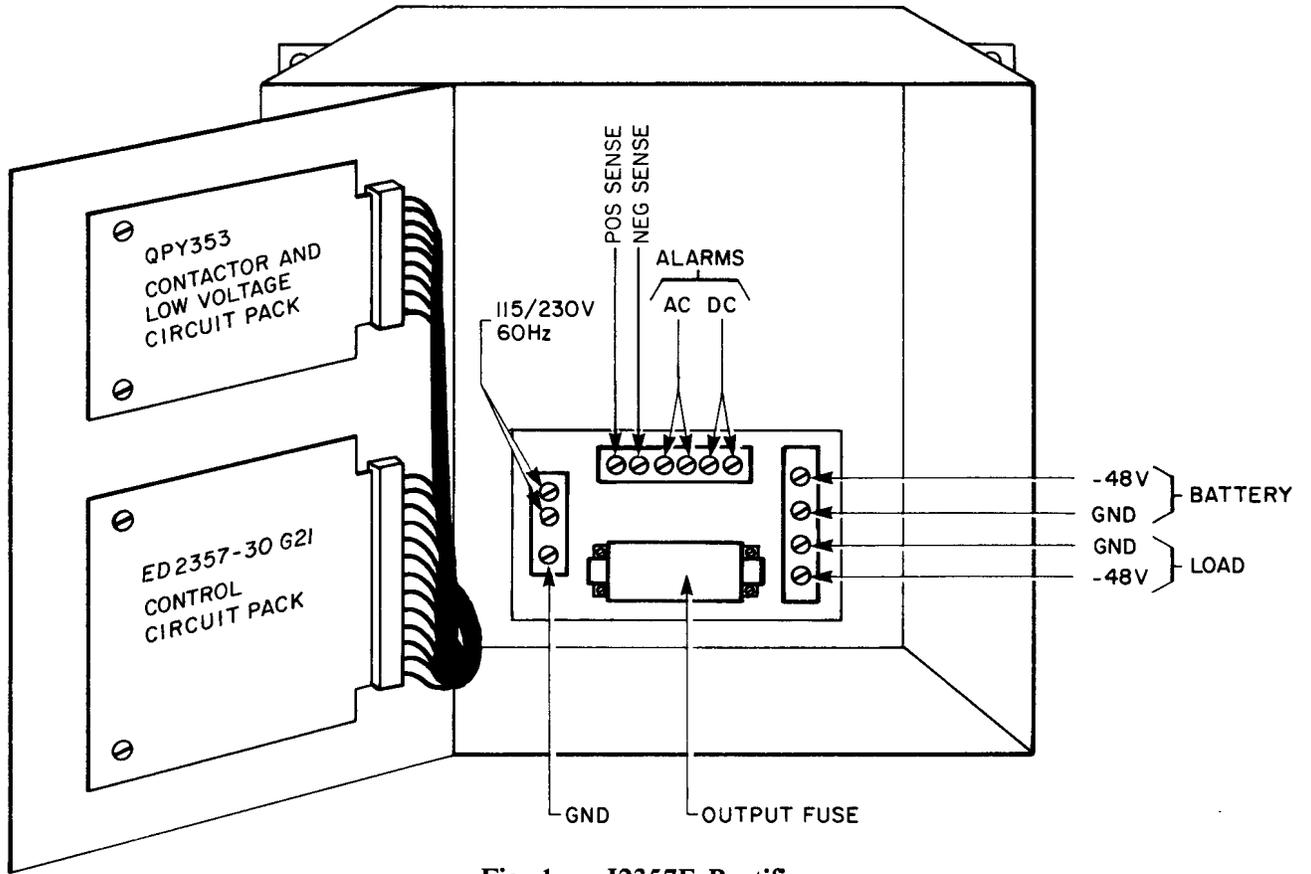

Fig. 1 - J2357E Rectifier
- (a) the ON/OFF circuit breaker handle is in the down position (see Fig. 1),
Caution: Voltages of 115 or 230 V 60 Hz, and 48 V dc, are present on the terminal blocks inside the rectifier (Fig. 1).
- 2 Open the top rectifier front panel by unscrewing the fastener and swinging the panel open (Fig. 1).
- 4 On the QPY353 circuit pack (on the inside of the rectifier front panel Fig. 1), move the jumper-wire connector to the terminal marked with the number nearest to the initial current limit, calculated at Step 3.
6	On the ED2357-30 G21 circuit pack (Fig. 1), locate the VOLT ADJ potentiometer and turn the adjustment screw fully counterclockwise. Caution: Do not adjust any other control on the ED2357-30 G21 circuit pack.
19 On the QPY353 circuit pack (Fig. 1) move the current-limit jumper to the terminal marked with the number next highest to the value calculated at Step 17.